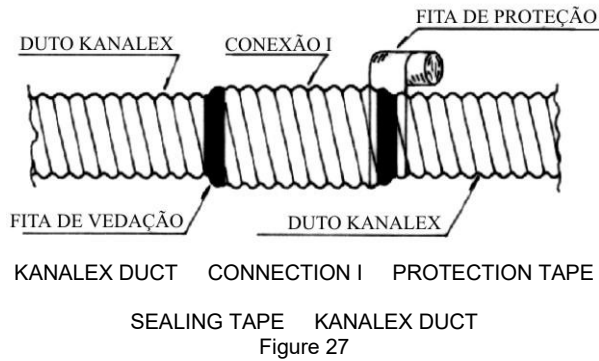

Figure 27
e) Apply the sealing or mastic tape and then the protection tape around the entire perimeter of connection I (Figure 27).